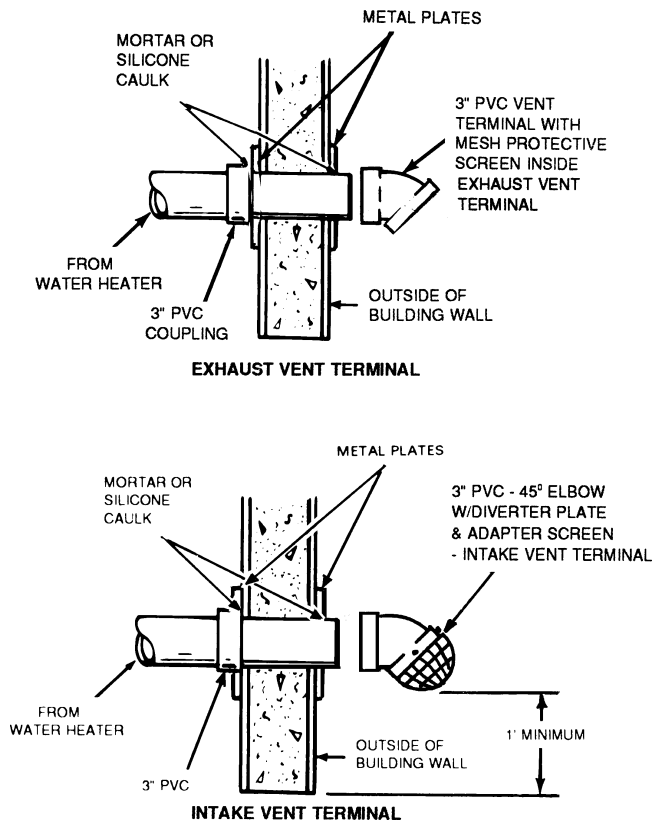

FIGURE 6
- If the vent pipe is installed up to the wall, with a coupling on the end against the wall opening, the pipe with the vent terminal can be prepared for gluing before inserting through the wall. Slide the pipe through the wall and insert into coupling on the other side of the wall, making sure that the vent terminal ends up pointed in the correct position. (fig. 6)